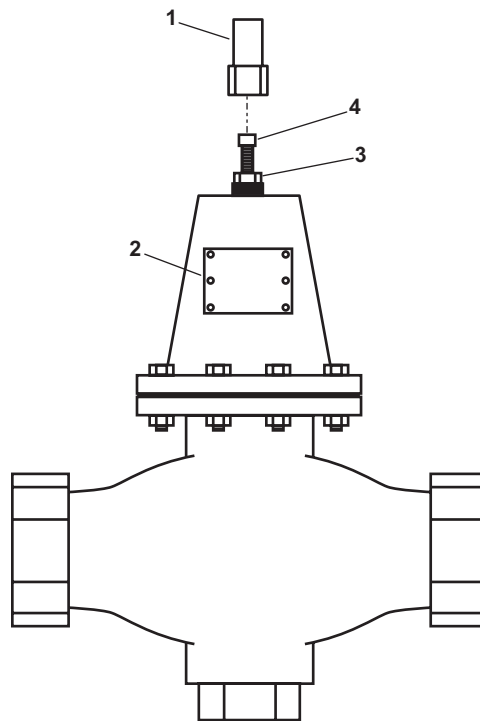
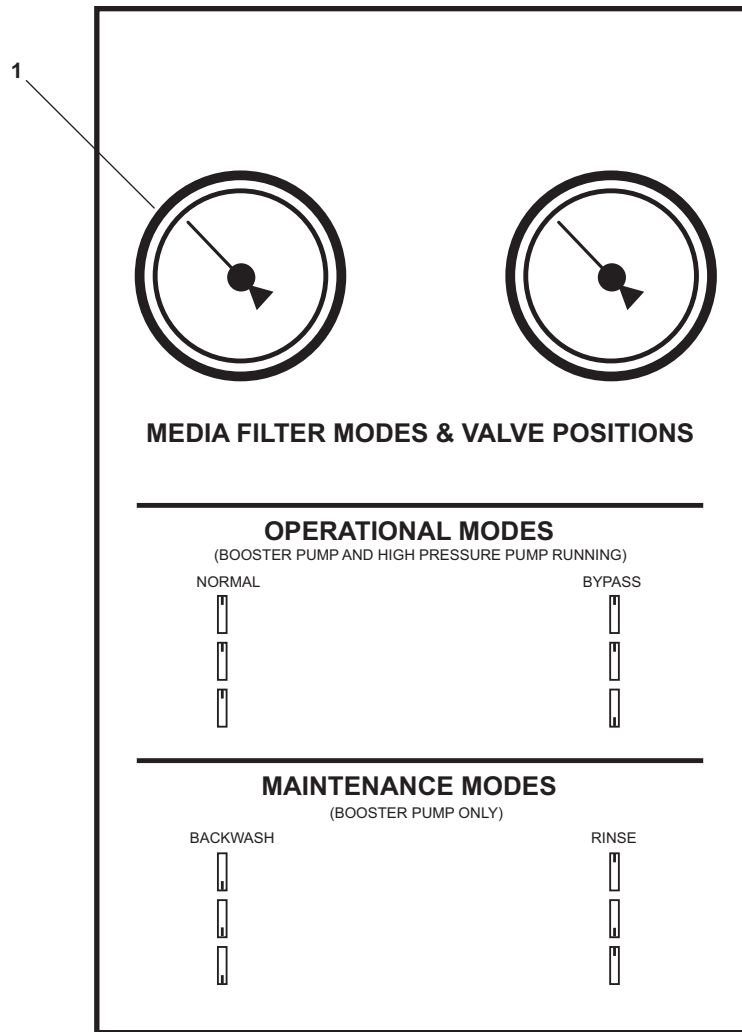

Figure 2. ROWPU System Pressure Regulator Valve
Figure 3. Media Filter Gauges
1. Remove the protective cap (figure 2, item 1) from the pressure regulator valve (figure 2, item 2).
2. Loosen the locking nut (figure 2, item 3) on the pressure regulator valve (figure 2, item 2).
4. Turn the adjustment screw (figure 2, item 4) clockwise to increase system pressure or counterclockwise to decrease system pressure as indicated on the media filter INLET PRESSURE gauge RO-PG-2 (figure 3, item 1).
1. Tighten the locknut (figure 2, item 3) on the pressure regulator valve (figure 2, item 2).
4. Install the protective cap (figure 2, item 1) on the pressure regulator valve (figure 2, item 2).